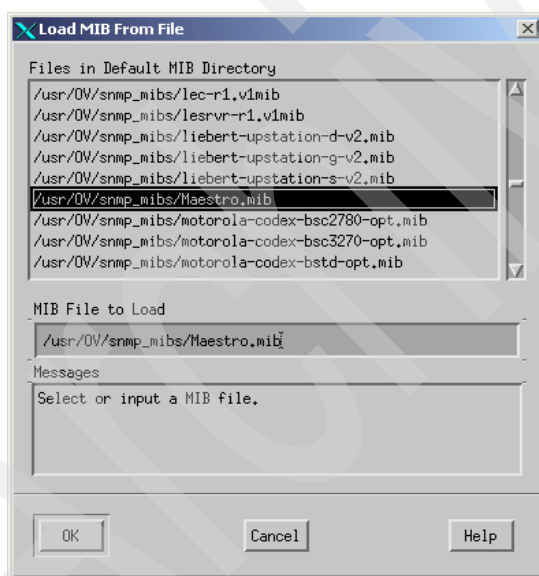

Figure 13-6 Loading Maestro MIB file
10. When the Load MIB From File dialog opens, find and select the Maestro MIB (/usr/OV/snmp_mibs/Maestro.mib) from the list and select **OK** (Figure 13-6).